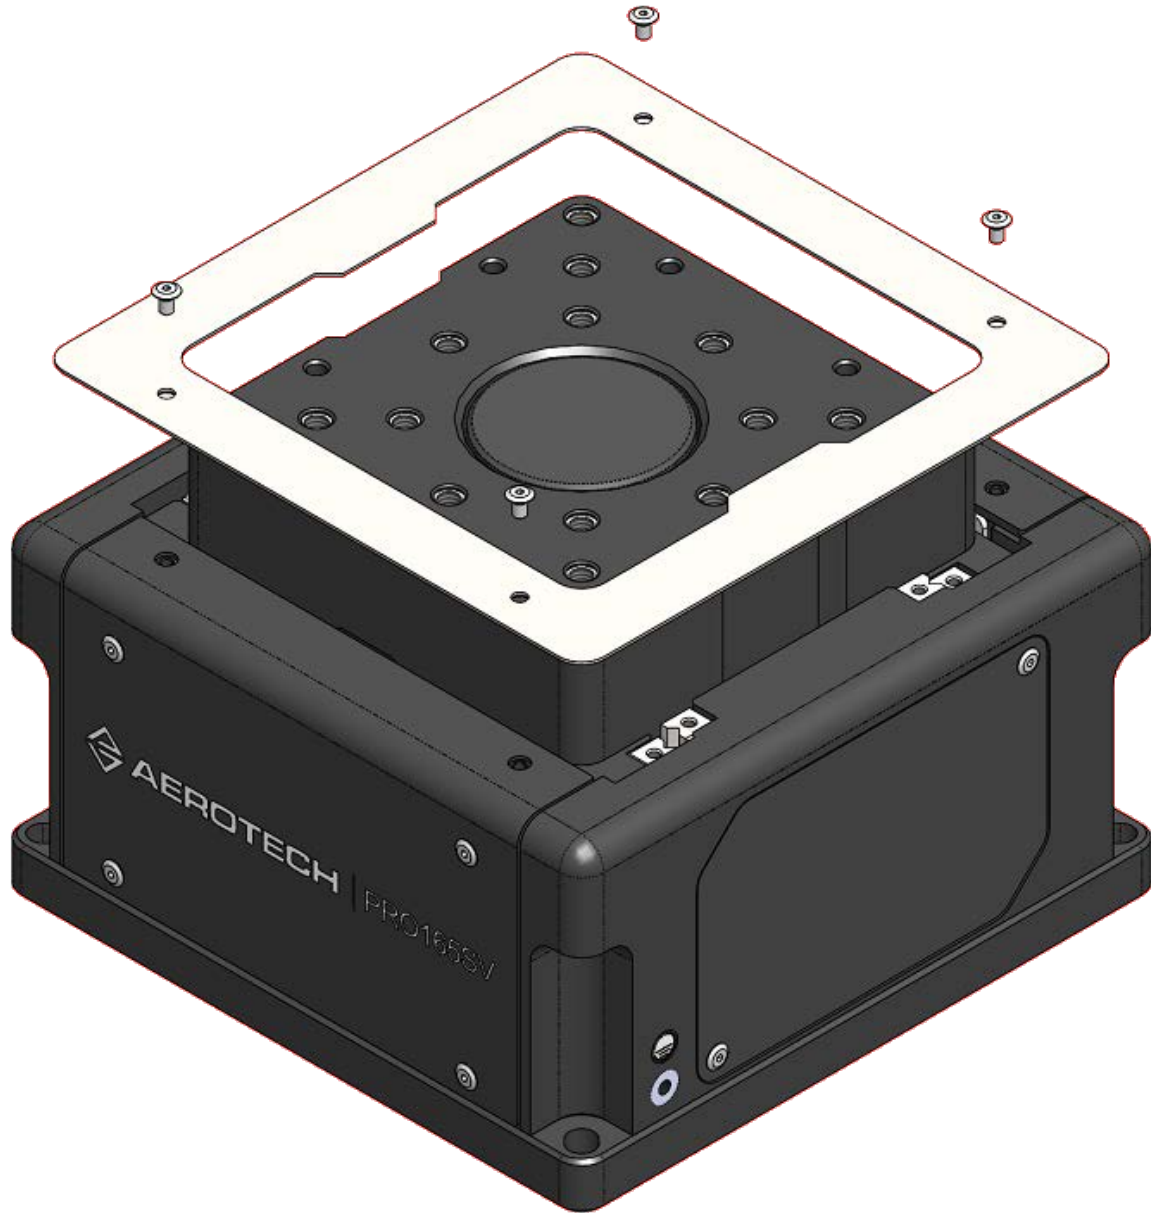

Figure 4-1: Hardcover Removal (PRO165SV shown)
2. Remove the top cover to get access to the linear bearings (refer to Figure 4-1).